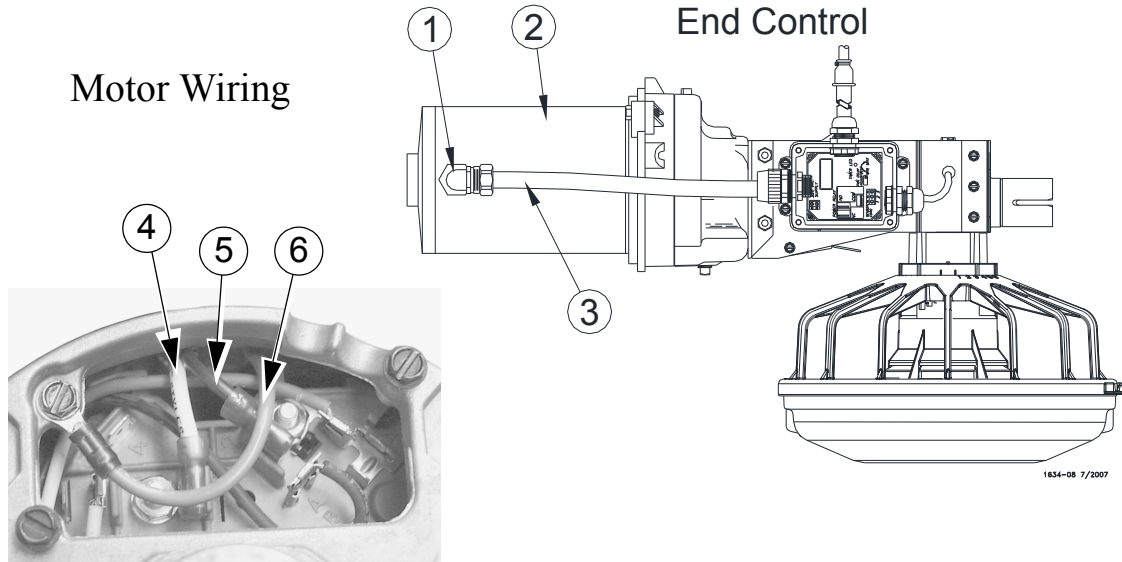

Figure 42. Wiring the Motor
8. Install the Metal Water Tight Connector (**item 1**) in the Feed Line Motor (**item 2**). Cut the Flex Conduit (**item 3**) to length. Slide the wires from the end control through the Flex Conduit (**item 3**). Install the Flex Conduit (**item 3**) in the connectors. Connect the wires to the Feed Line Motor (**item 2**), see **figure 42**.